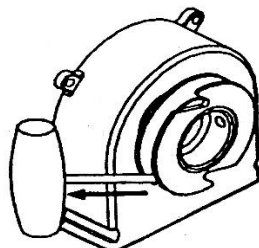

Fig. 4
5. Wind the starting rope clockwise on the starting pulley and pull it slowly for several times to allow the mixture fuel into the cylinder, then pull it smoothly and quickly to start the engine (see fig.4)